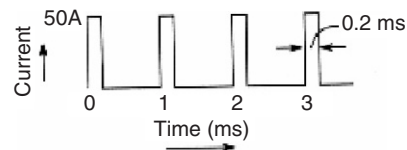

FIGURE 2.6 The current waveform.
**EXAMPLE 2.3** The current waveform passing through a diode switch in a switch mode power supply application is shown in Fig. 2.6. Find the average, rms, and the peak current.